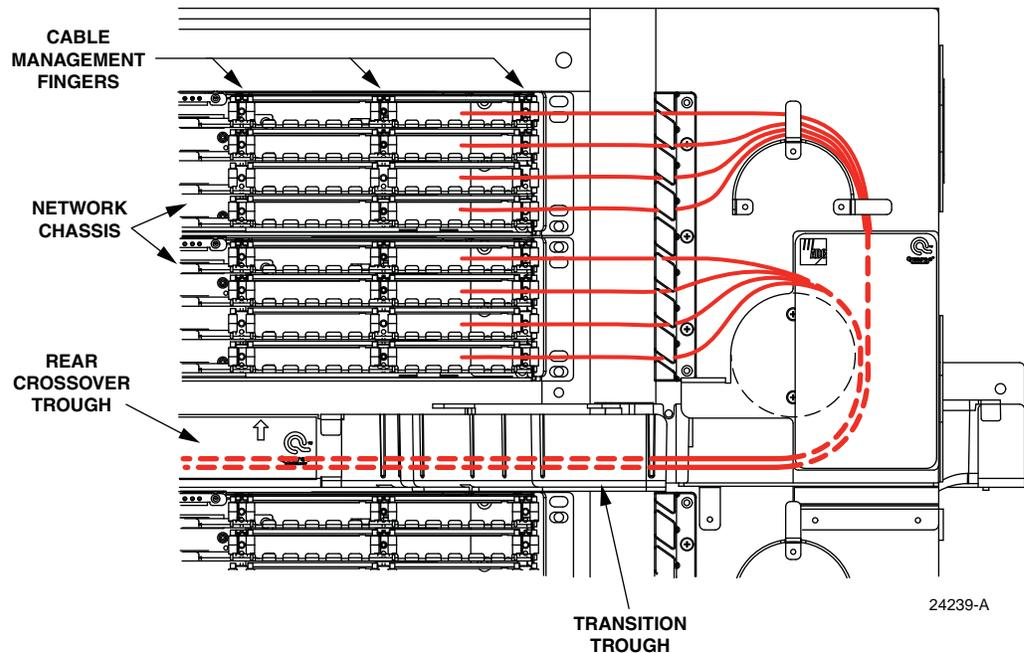

Figure 25. Cable Routing Exiting Network Chassis
4. Route the fiber cable through the cable fingers on the blade through the cable guides at the side of the chassis. See Figure 25.